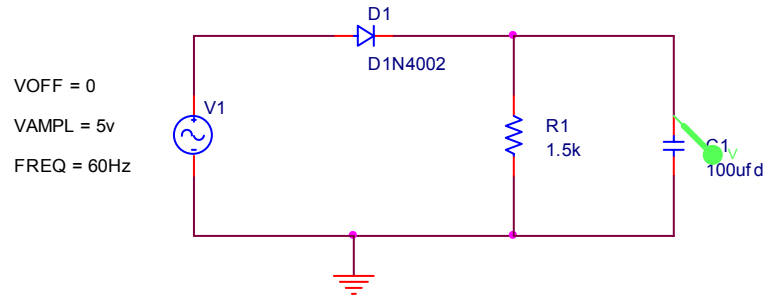

Fig. 4-3
6. Using the half wave rectifier Fig 4-3, design a circuit in which a capacitor is in parallel with R1 such that the ripple voltage, V_r , is 0.5V. Assume that $V_{on} = 700mV$ for the D1N4002. Be sure to show all your work.